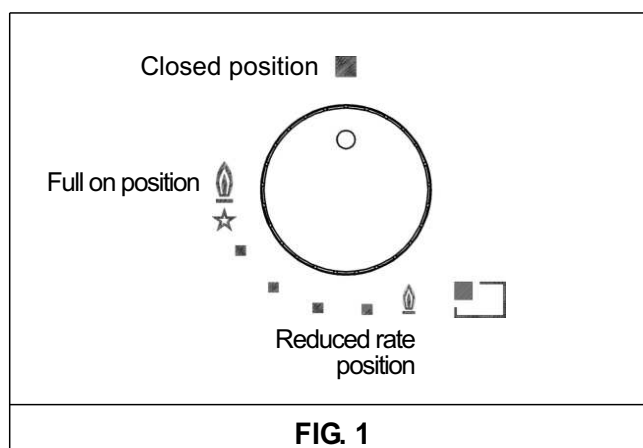

FIG. 1
Push and turn the knob corresponding to the required burner in an anticlockwise direction until it reaches the full on position (large flame fig. 1), then place a lighted match near the burner.
Push and turn the knob corresponding to the required burner in an anticlockwise direction until it reaches the full on position (large flame fig. 1), then depress the knob.
The knobs of burners equipped with flame failure device must be turned in an anticlockwise direction until they reach the full on position (large flame fig. 1) and come to a stop. Now depress the knob in question and repeat the previously indicated operations.
- **burners with flame failure device may only be ignited when the relative knob has been set to the Full on position (large flame fig. 1).**